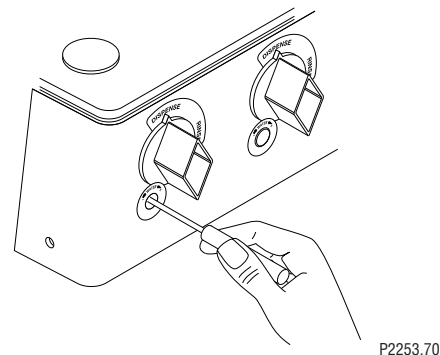

FIG 7 Adjusting Water Flow
6. Adjust the water flow rate Fig 7, (clockwise to increase flow rate; counterclockwise to decrease flow rate) to the corresponding product mix ratio as follows: